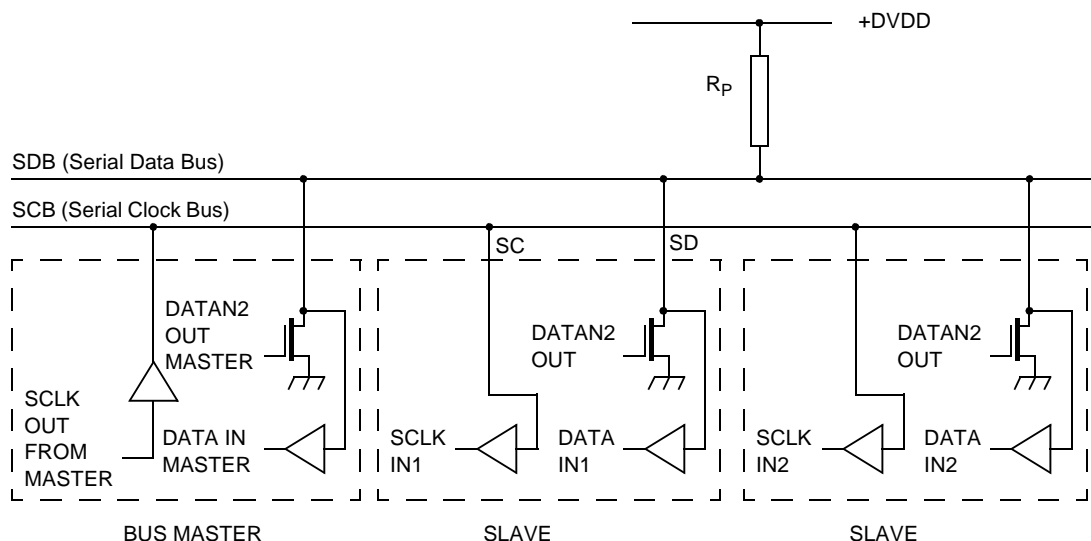

Figure 8: Connection of Devices to the Bus
The CH7009 contains a standard I²C control port, through which the control registers can be written and read. This port is comprised of a two-wire serial interface, pins SD (bidirectional) and SC, which can be connected directly to the SDB and SCB buses as shown in **Figure 8**.
The Serial Clock line (SC) is input only and is driven by the output buffer of the master device (also shown in **Figure 8**). The CH7009 acts as a slave, and generation of clock signals on the bus is always the responsibility of the master device. When the bus is free, both lines are HIGH. The output stages of devices connected to the bus must have an open-drain or open-collector to perform the wired-AND function. Data on the bus can be transferred up to 400 kbit/s.
The electrical specifications of the bus devices' inputs and outputs and the characteristics of the bus lines connected to them are shown in **Figure 8**. A pull-up resistor (R_P) must be connected to a $3.3V \pm 10\%$ supply. The CH7009 is a device with input levels related to DVDD.